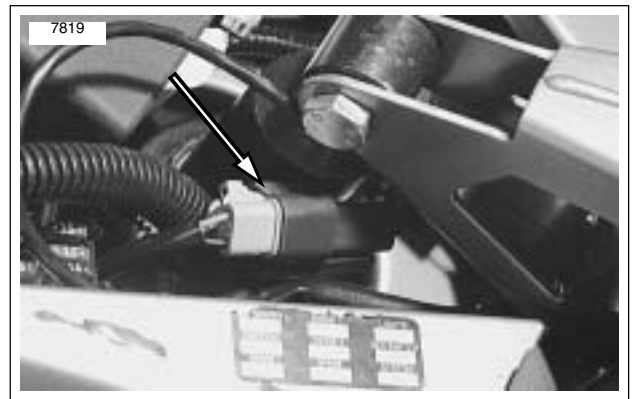

Figure 7-97. Speed Sensor Connector [65]
7. See Figure 7-97. Mate speed sensor connector [65]. Tuck excess harness into right frame pocket.